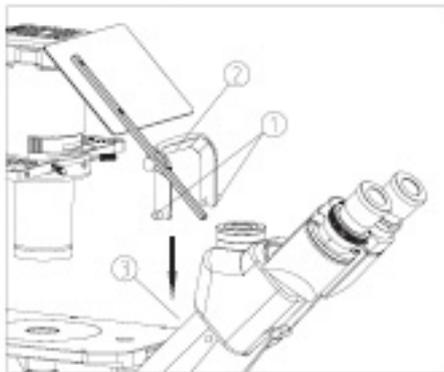

Figure 14
(1) Loose screw 1 till enough to put in trinocular cover. (Fig.14)
(2) Set the holder 2 close with trinocular cover 3 and horizontal the eye-protecting board, then tight the screw 1.
(3) Loose the screw 4 a little to let connecting pole 5 moving as showed direction. And adjust the eye-protecting board to suitable position, then tight the screw 4.